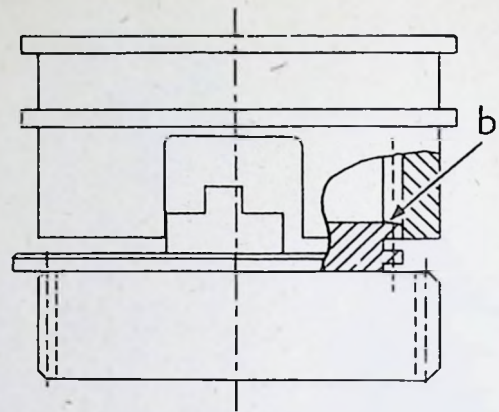

FIG. 60.—"Dogs on".
- (3) It is also possible that the spurious condition shown in Fig. 60 may be obtained: viz., the sliding dog has passed through the baulk but the ends of the dog teeth happen to be in line and butting together ("dogs on" condition). Do not confuse this with the true baulked condition.